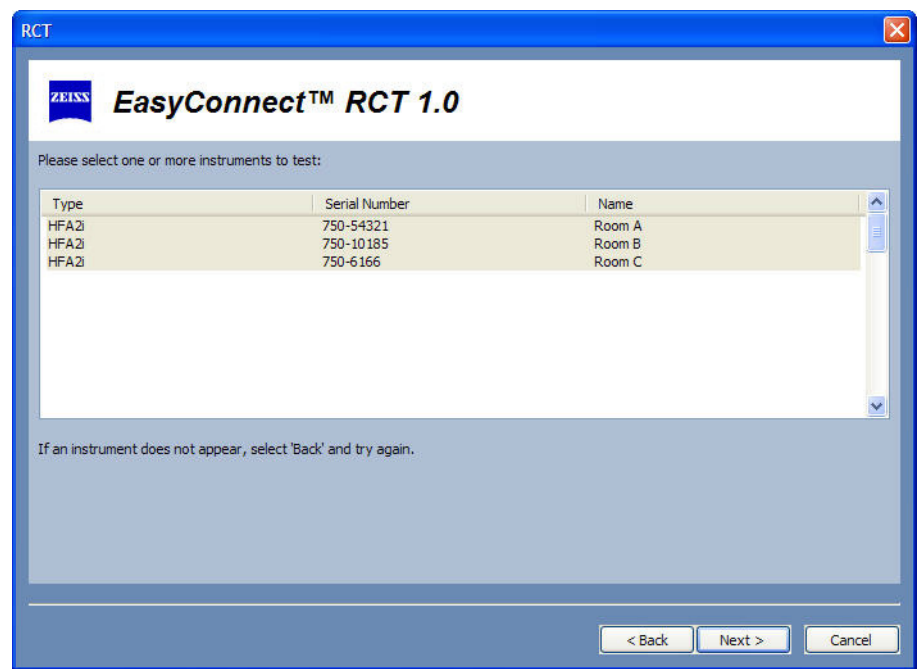

Figure G.45 Select Networked HFA Instruments to Test Configurations
- 2 A list of all networked HFA II-*i* instruments will be displayed (Figure G.45). All instruments are selected by default. Select the instruments you want to test and then select NEXT to continue. CTRL-CLICK to select or deselect multiple instruments.